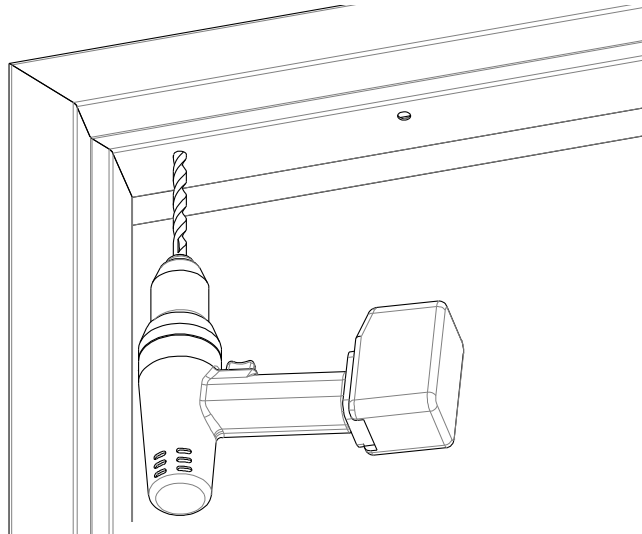

Figure 7. Drilling the Bracket Mounting Holes
1. DRILL two (2) $\frac{3}{8}$ " diameter holes at bracket-mounting hole marks (see Figure 7, "Drilling the Bracket Mounting Holes"); DO NOT oversize.